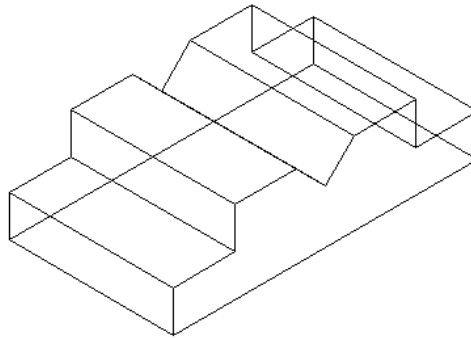

Figure 2-37 Final 3D wireframe model for Example 1
5. The final 3D model should look similar to the one shown in Figure 2-37.